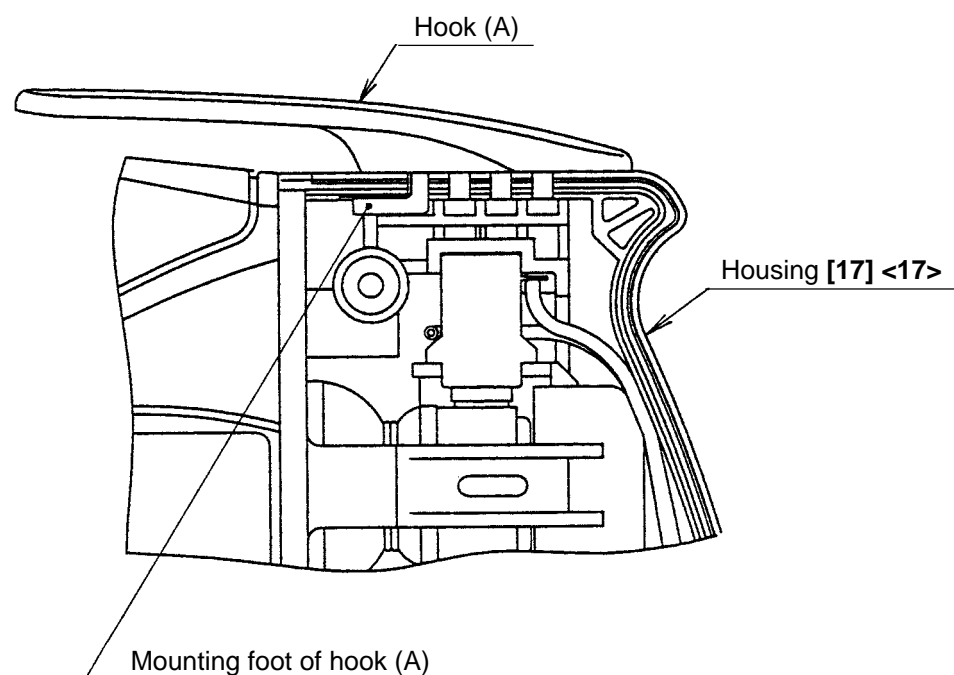

Fig. 1
- (1) Loosen the Tapping Screw (W/Flange) D4 x 20 (Black) **[23]** **<21>** and remove the Handle Cover **[24]** **<22>**.
- (2) Insert the mounting foot of hook (A) into the air vent of the Housing **[17]** **<17>** as shown in Fig. 1.
- (3) Mount the Handle Cover **[24]** **<22>**.